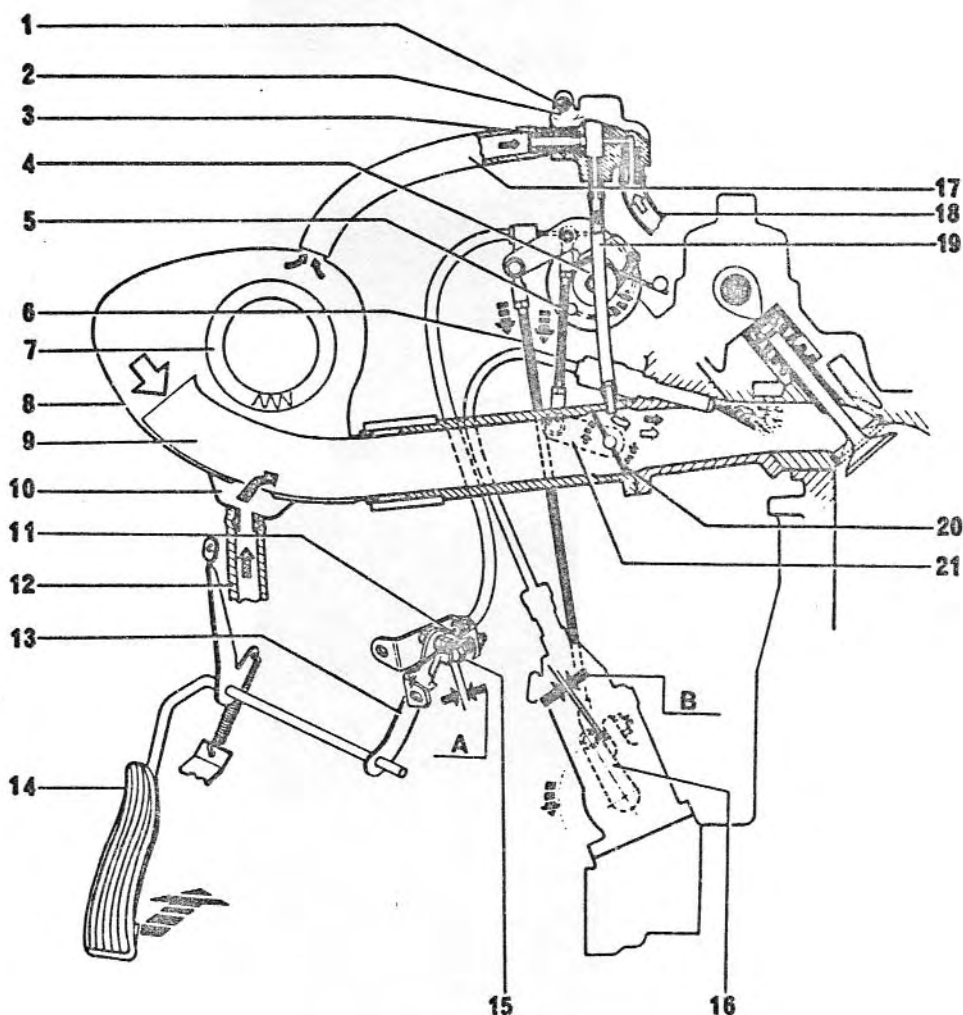

Fig. 10 - THROTTLE-CONTROL UNIT LINKAGE ADJUSTMENT
Disconnect the push-pull rods (5) and (6) (see fig. 10), the cable from the relay crank sheave and the battery negative terminal.
Check that clearance (see "A" fig. 10) between accelerator arm (13) and limit screw is .040 - .060" as pressure is applied to the pedal while the relay crank is prevented from rotating. Adjust screw if necessary.
Reconnect relay crank-to-throttle rod (5) (see fig. 10) and adjust its length so that throttle are just closed when the relay crank is resting on the idle limit stop screw. "Just closed" can be verified by opening and closing the throttles by hand with the relay crank very slowly. The throttle plates will be felt touching their bores as they close.
Check that clearance (free travel, see "B" fig. 10) between control unit arm and its reference screw is .010 - .024" (0.3 - 0.6 mm) (the closer to .019"/0.5 mm the better).